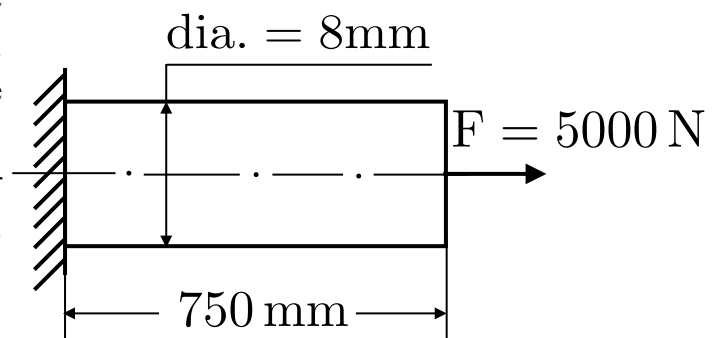

Figure 2: An Axially Loaded Bar
- Assume the bar in Figure 2 remains in the linear elastic region when acted upon by F . The Young's Modulus of the material of the bar is $E = 200 \times 10^3 \text{ N/mm}^2$.